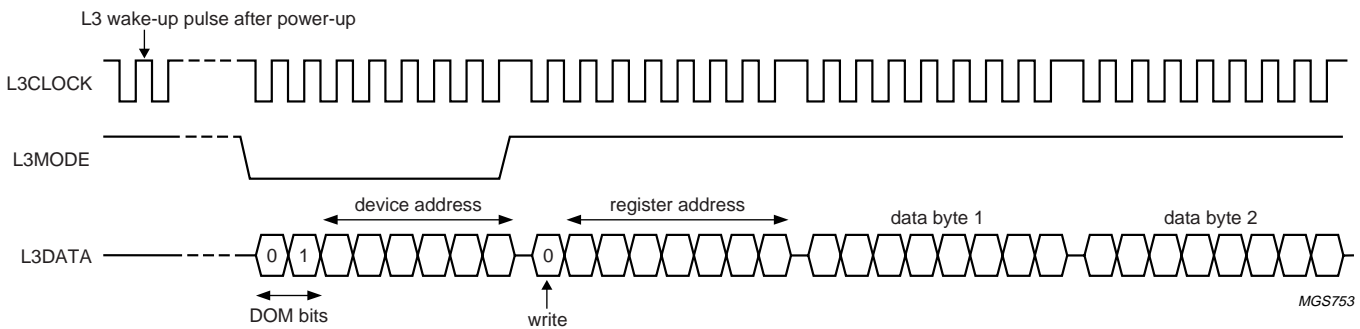

Fig.6 Data write mode (for L3 version 2).
The address mode is used to select a device for a subsequent data transfer. The address mode is characterized by L3MODE being LOW and a burst of 8 pulses on L3CLOCK, accompanied by 8 bits (see Fig.6). The data transfer mode is characterized by L3MODE being HIGH and is used to transfer one or more bytes representing a register address, instruction or data.
**Remark:** when the device is powered up, at least one L3CLOCK pulse must be given to the L3 interface to wake-up the interface before starting sending to the device (see Fig.6). This is only needed once after the device is powered up.
1. Addressing for write data: bit 0 is logic 0 indicating a write action to the destination register, followed by bits 1 to 7 indicating the register address (see Fig.6).
The data write mode is explained in the signal diagram of Fig.6. For writing data to a device, four bytes must be sent (see Table 6):